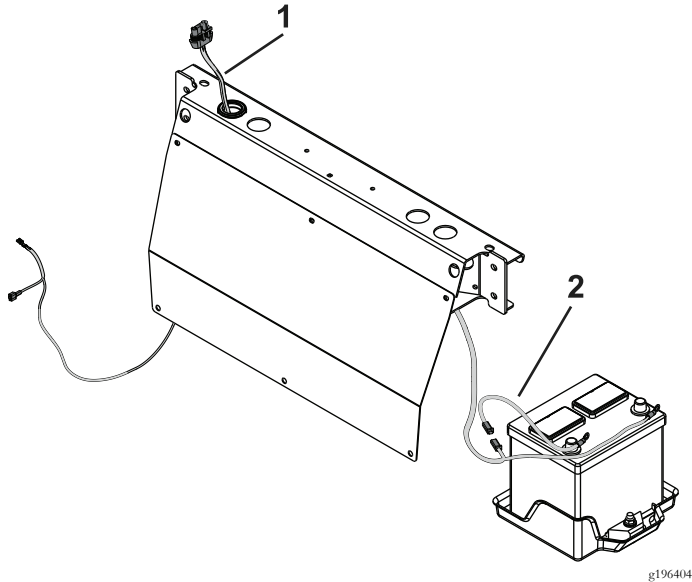

Figure 41
1. Arrange the wire harness as shown in Figure 41.
2. Connect the fusible link to the wire harness (Figure 41).